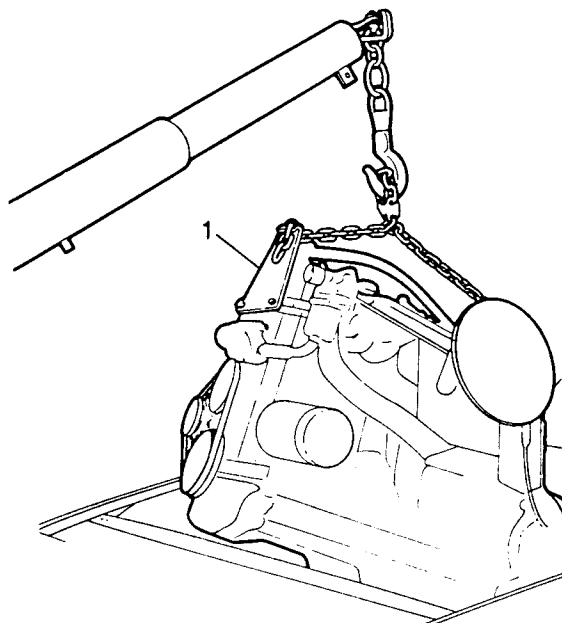
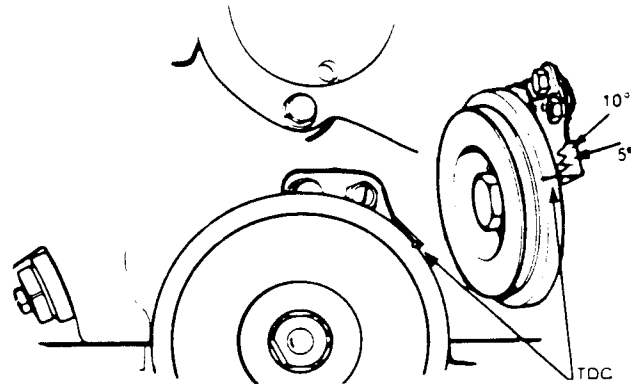
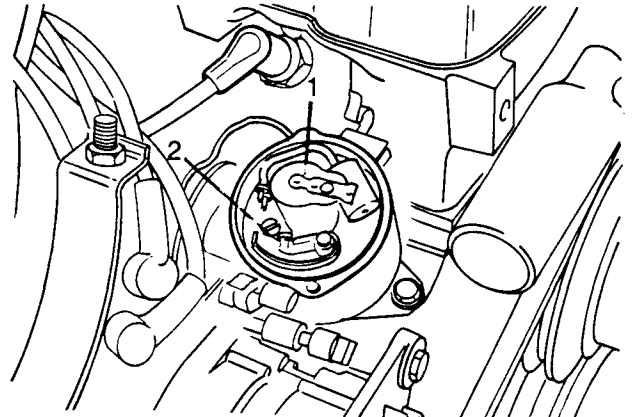

Fig B4.14
Fig B4.34
Fig B4.35
- (24) Refer to Fig B4.14. Support the engine weight using suitable lifting tackle with engine lifting brackets 18GA041 (1). Note that the figure is only to illustrate the fixings for the lifting brackets. The engine is not lifted clear of the vehicle at this stage.
- (4) Refer to Fig B4.34. Set the timing marks to TDC with No 1 cylinder firing. See Fig B4.35.
- (5) Refer to Fig B4.35. The No 1 cylinder firing position is with the distributor rotor (1) pointing to No 1 cylinder take-off (as shown) and the points (2) opening.
- (6) Remove the distributor (see Sub-section D4, Chapter 2).
- (7) Remove the harmonic balancer ((2) on Fig B4.14).
- (8) Remove the crankshaft oil seal (see Sub-section B4, Chapter 7).
- (9) Remove the oil pump (see Sub-section B4, Chapter 16) and oil pump drive shaft. Note that this shaft will come out from the bottom of the engine block once the pump is removed.